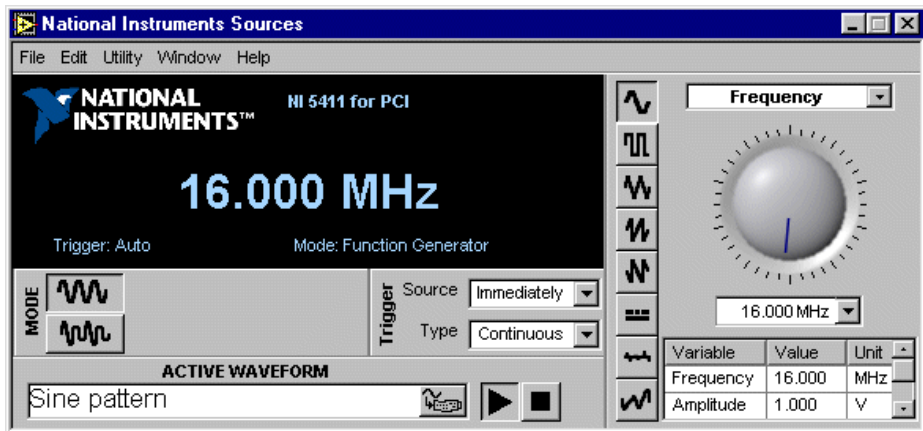

Figure 1-6. Sources Soft Front Panel in DDS Output Mode
If you need to generate standard waveforms such as a sine, square, ramp, or DC signal, you can use the Sources Soft Front Panel in the operation mode as shown in Figure 1-6. Launch the front panel from the Start menu. You use this front panel to control the frequency, amplitude, offset, and type of waveform generated. For the NI 5411, the maximum sine frequency you can generate is 16 MHz. For the NI 5431, the maximum frequency is limited to 8 MHz. The maximum amplitude is 5 V_{pk} into a 50 Ω load.
4. Click **Finish** to download the waveform to onboard memory and return to the screen shown in Figure 1-6.